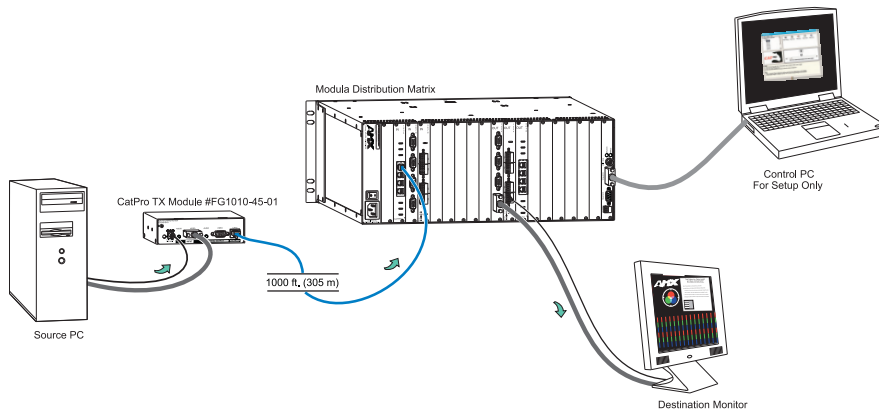

FIG. 51 Routing Path B
2. Cable the complete routing paths from the source devices to the destination devices (FIG. 51). All cable should be the actual cable that will be used. The minimum cable length for a Modula CatPro Input board should not be less than 12 feet (3.66 m).